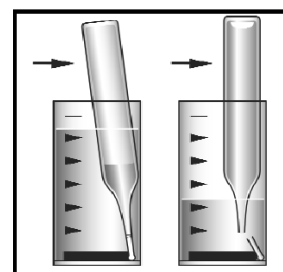

Figure 3
5. Immediately snap the tip by pressing the ampoule against the side of the cup. The ampoule will fill leaving a small bubble to facilitate mixing (fig 3).